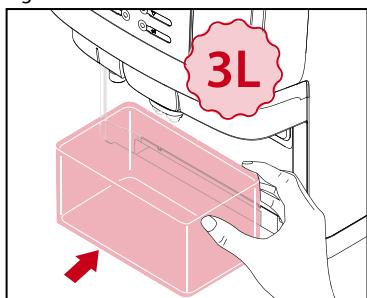

Fig.19
- Remove the drip tray and place a 3 liter / 3 quart container (see Fig.19) under the outlets, then press **ENTER**. Follow the instructions on the display: **PRESS ENTER TO FLUSH**